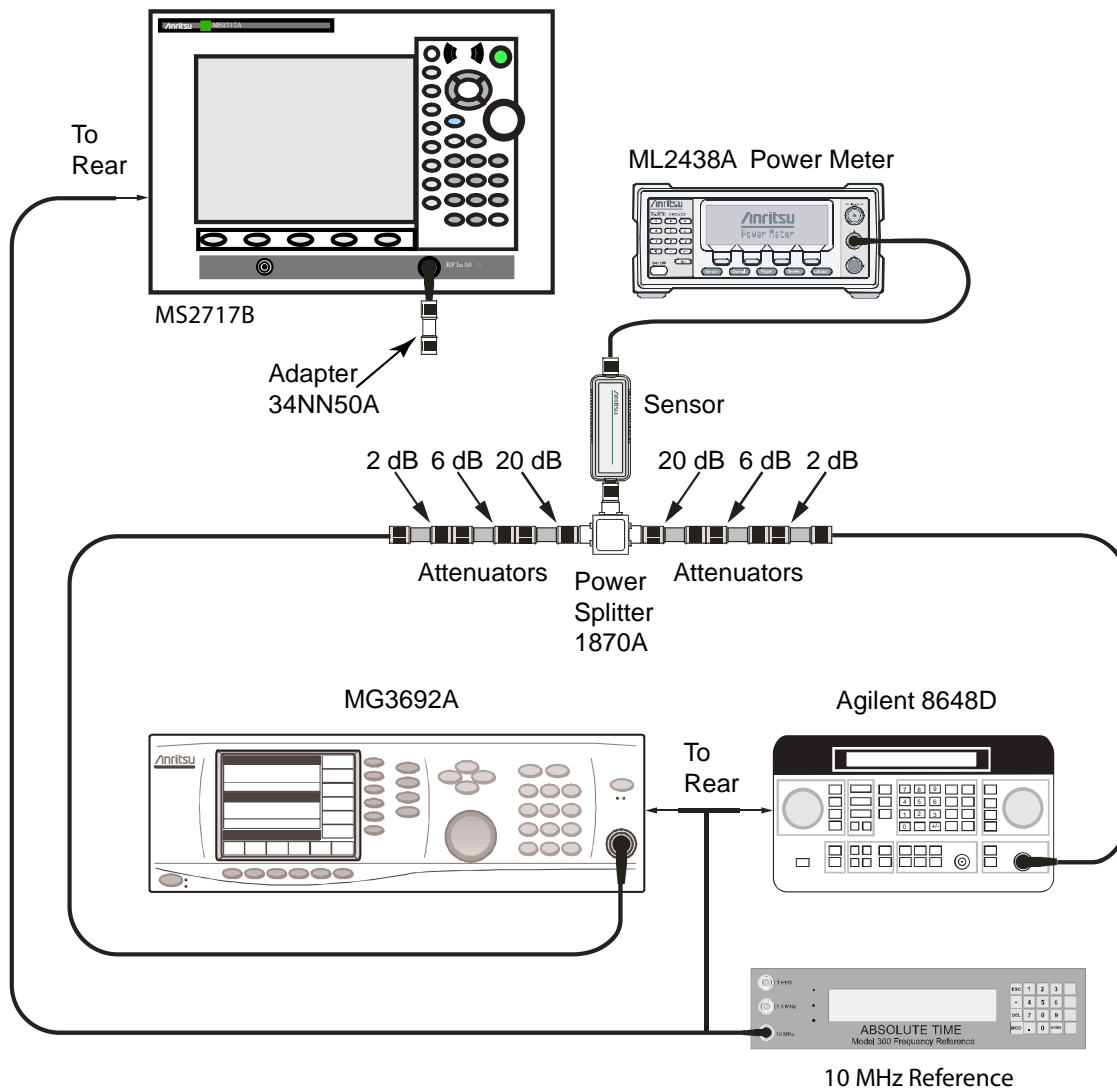

Figure 2-1. Third Order Intercept Verification (600 MHz) Setup
1. Connect the equipment as shown in Figure 2-1. The splitter will be used as an RF combiner (the normal RF outputs will become inputs, and the normal input will become the RF output).